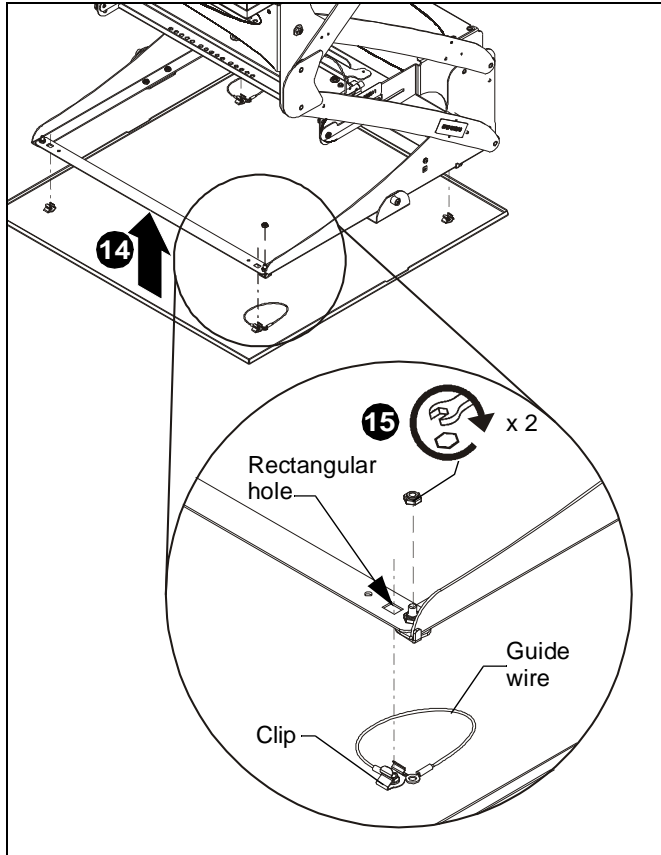

Figure 9
14. Re-install four clips on ceiling panel into rectangular holes on SL236SP. (See Figure 9)
15. Reattach guide wires (two places) to SL236SP, using nuts removed earlier in Step 1 of **Installing in a Suspended Ceiling** section. (See Figure 9)